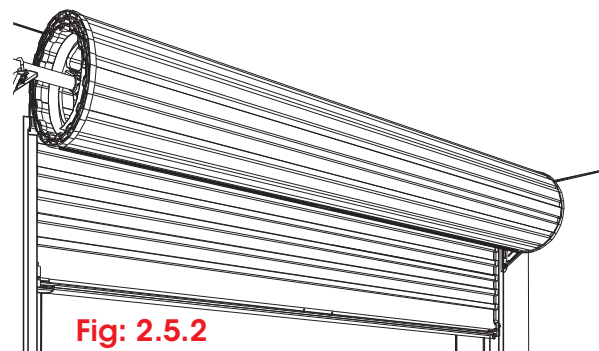

Fig: 2.5.2
- c) Pull the curtain down slowly into the guides below the head stop in Fig 2.5.2.